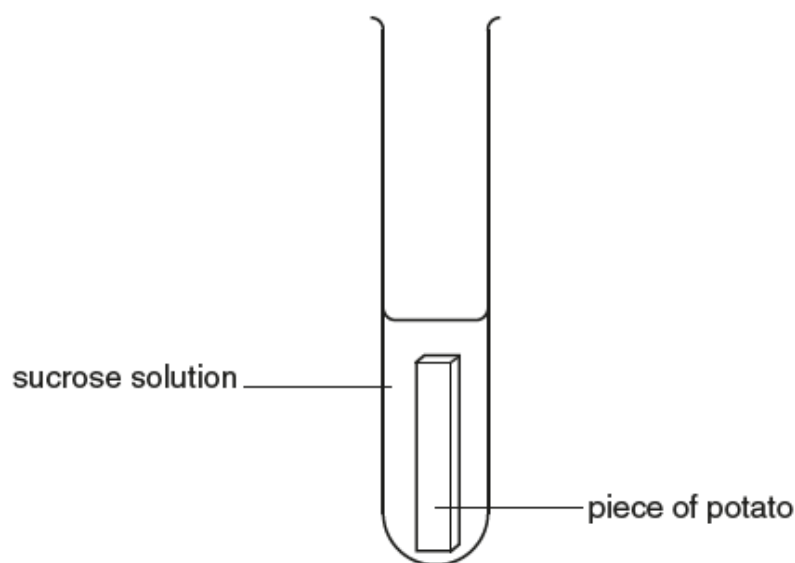

Fig. 1.1
When a piece of potato is put into a sucrose solution, as shown in Fig. 1.1, water will move by osmosis into and out of the potato cells. The net direction of movement of water depends on the difference in water potential between the potato cells and the sucrose solution.
15. Put the end of the pipette into the **test-tube** containing 1.00 mol dm⁻³ concentration of sucrose solution, **S1**. This should be level with the marker line on the test-tube as shown in Fig. 1.1 on page 2.